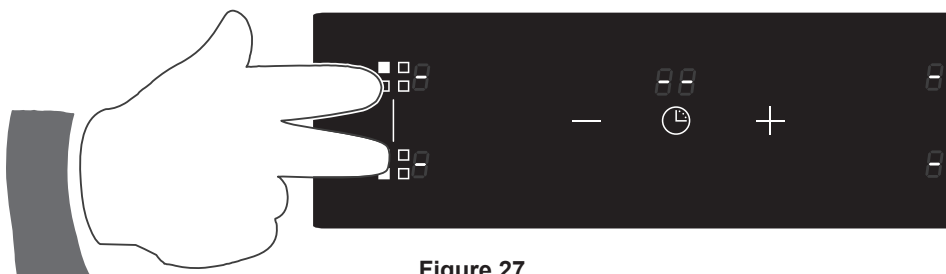

Figure 27
- Select both of the two zones by finger pressure (fig. 27).